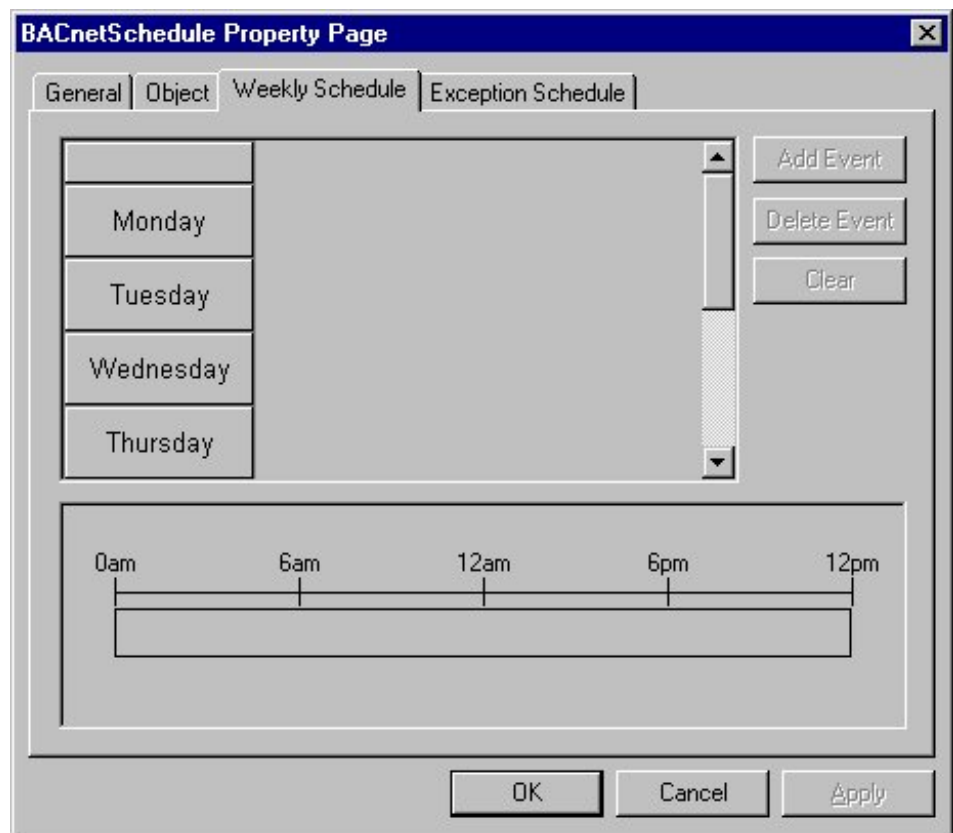

Figure 8-4: BACnetSchedule Property Page
1. Select the Weekly Schedule tab on the BACnetSchedule Property Page (Figure 8-2). A blank weekly schedule appears (Figure 8-4).